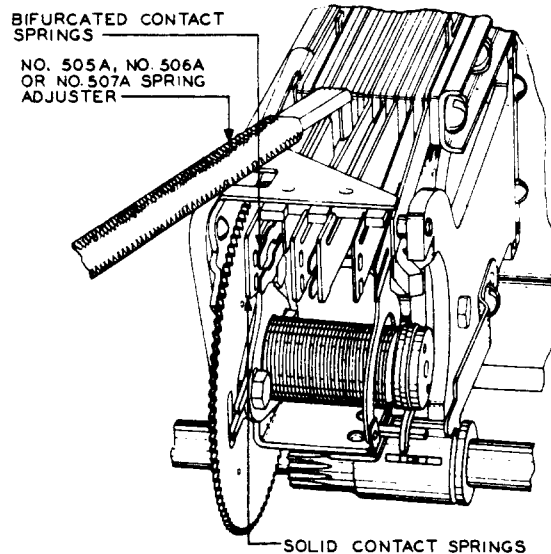

Fig. 25 - Method of Adjusting Spring Tension
(1) Use the No. 505A, No. 506A, or No. 507A spring adjuster to adjust for spring tension or contact pressure and adjust the solid and bifurcated springs, as required, applying the adjuster on the thinner part of the springs where the springs leave the clamping plate and insulators, as shown in Fig. 25. After adjusting, make sure requirements 2.21, 2.23, 2.24, 2.25, and 2.26 are met.